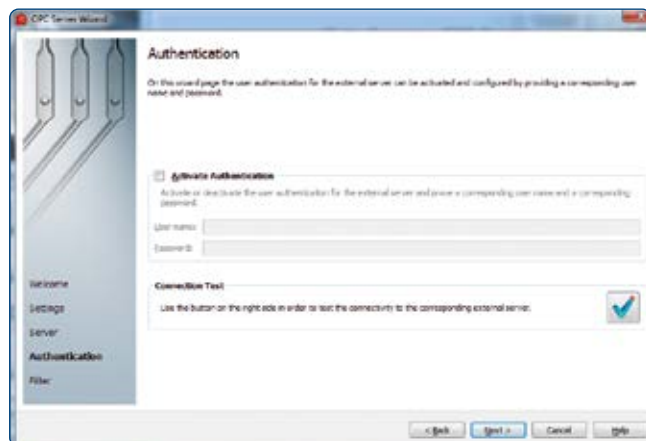

Figure 75: Validating the server connection.
9. Test the connection (Figure 75).